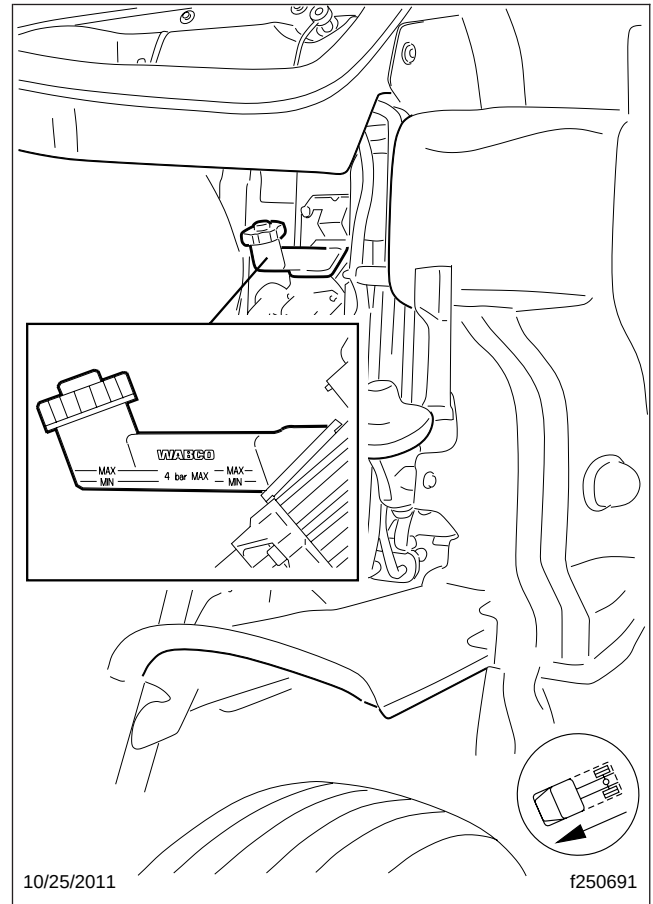

Fig. 1, Reservoir, Hydraulic Clutch Control
3. Remove the reservoir lid, and install the pressure bleed adaptor on the reservoir. See Fig. 1.